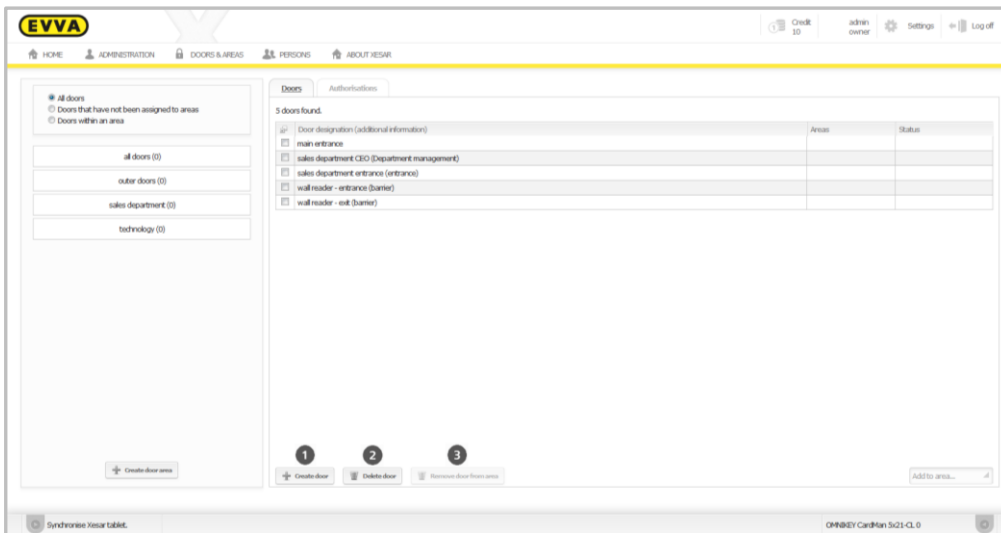

Figure 69: Managing doors
- **Creating** doors; Figure 69: Managing doors).
You can also delete doors in this menu item (Figure 69: Managing doors).
Proceed as follows to delete doors from an area (Figure 69: Managing doors):